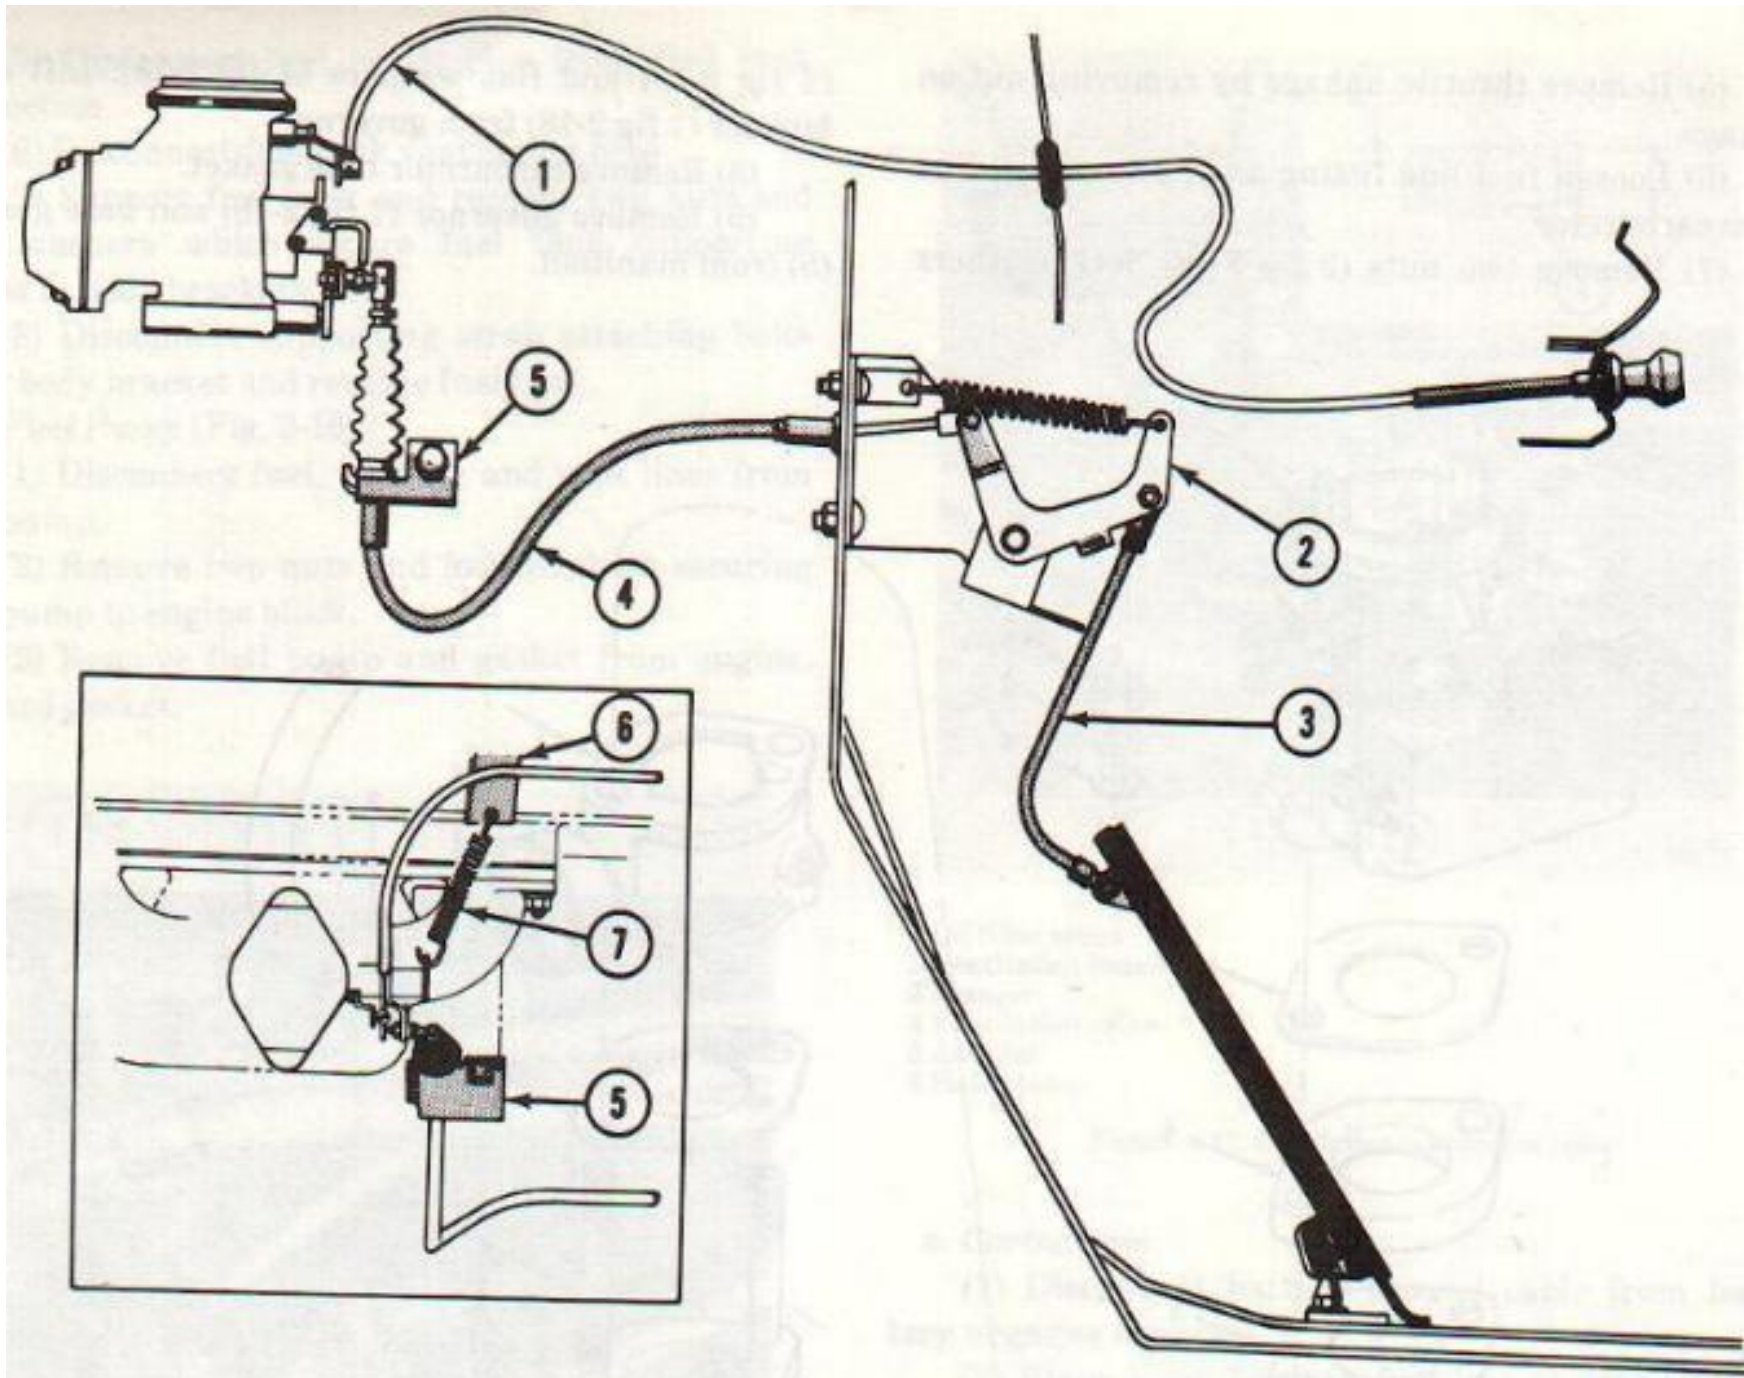

Figure 2-19. Accelerator linkage, control cable and choke control.
- (1) Loosen screw which secures choke control wire (1 fig 2-19) to choke blade swivel.
- (2) Loosen cable clamp screw and lock washer cable from clamp.
- (3) Remove nut and lock washer which secure cable behind instrument panel.
- (4) Remove cable by pulling assembly through firewall grommet and instrument panel.
- (1) Remove accelerator linkage return spring (7 fig 2-19) from carburetor throttle lever and rear rocker arm support bracket.
- (2) Remove nut which secures accelerator cable to throttle lever. Disconnect cable from lever.
- (3) Remove retainer clip attaching accelerator cable housing to manifold. Remove cable from bracket.
- (4) Remove bellcrank return spring attached to inside firewall.
- (5) Remove cotter key securing accelerator cable to bellcrank.
- (6) Remove retainer clip securing accelerator cable to inside firewall.
- (7) Remove nut connecting accelerator rod to bellcrank assembly. Remove bolts attaching bell-crank to firewall. Remove bellcrank assembly (2 fig 2-19).
- (8) Remove two phillips screws which secure accelerator pedal to floor panel. Remove accelerator pedal.
- (1) Install fuel filter in-line between fuel pump and carburetor.
- (2) Connect fuel inlet and outlet lines to filter and tighten clamps.
g. Choke Control Cable. (Fig 2-19)
- (1) Insert cable through instrument panel and grommet in firewall. Insure that attaching sock washer and nut are on cable before inserting through firewall.
- (2) Tighten nut which secures cable housing to instrument panel.
- (3) Insert cable housing through clamp and insert cable into choke blade lever retainer. Tighten screw which secures cable housing in clamp.
- (4) Push choke cable tight against instrument panel.
- (5) Insure that choke blade is completely open and tighten cable retaining screw,
h. Accelerator Pedal and Linkage. (Fig 2-19)
- (1) Position accelerator pedal on floor panel. Install attaching screws and tighten.
- (2) Position bellcrank assembly on inside firewall.
- (4) Install nut securing accelerator pedal rod to bellcrank assembly. Tighten nut.
- (5) Install retainer clip securing accelerator cable to insider firewall.
- (6) Install cotter key securing accelerator cable to bellcrank.
- (7) Install bellcrank return spring to bracket on inside firewall.
- (8) Install retainer clip securing accelerator cable housing to manifold.
- (9) Install nut which secures accelerator cable in throttle lever.
- (10) Adjust linkage as outlines in paragraph 2-39h and install accelerator cable in throttle lever.